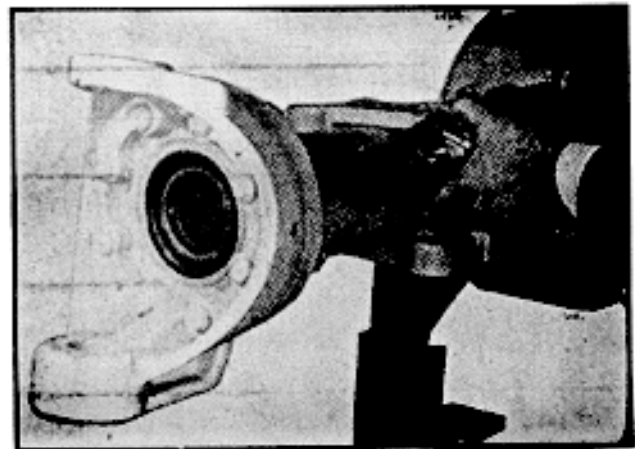

Fig. 26
3. Remove suspension yoke from the axle housing by removing eight locknuts and hardened washers. (See fig. 26.)